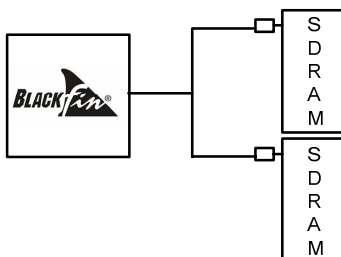
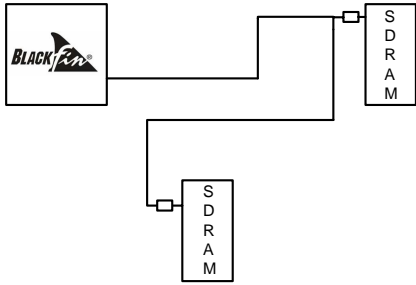

Figure 18. Right: spread traces and make their lengths equal
Figure 19. Wrong: traces that loop around
- When you are distributing a signal, all traces should have the same path length (Figure 18) to the devices (if possible). Avoid loops like the one shown in Figure 19.